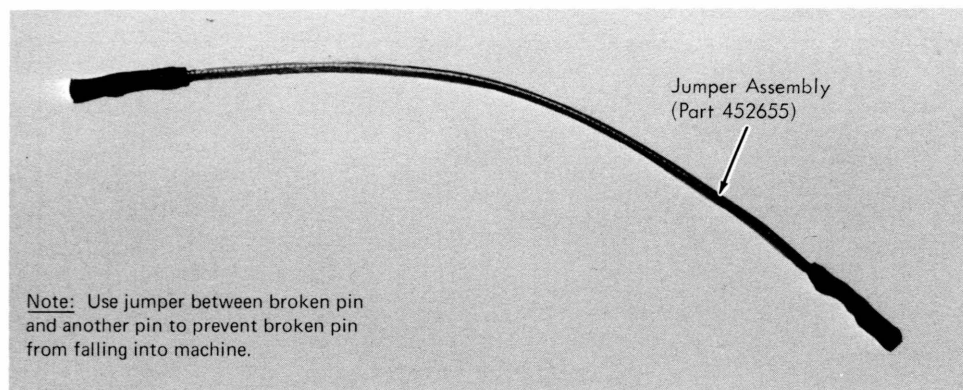

Figure 2-32. Broken Pin Jumper
Note: Place one end of a 4-inch jumper wire, part 452655, (Figure 2-32) onto the pin (card side) being removed and place the other end of the jumper on a conveniently located pin to prevent the pin being removed from falling into the machine.
1. Install the pin driver bit, part 453774, (Figure 2-32) into the impact tool and then insert the replacement pin, part 453444, into the driver bit with the larger diameter of the pin against the driver bit.